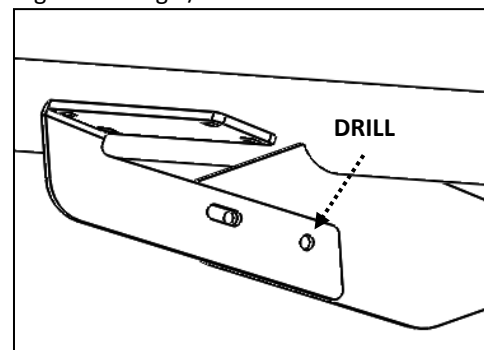

Figure 8: Drill 2nd Hole on Bracket and Bolt Together Using 1/4"-20 Hardware.
- Once this bracket is bolted firmly into the van, you can drill the second hole into the center nerf bar blade to lock the rotation permanently on this bracket as seen in **Figure 8**. Use a 1/4" drill bit and bolt together using 1/4" hardware.